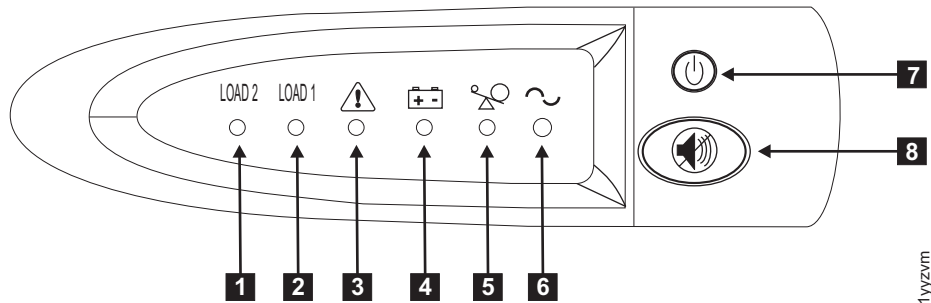

Figure 35. 2145 UPS-1U front-panel assembly
8. Press and hold the on/off button (**7** in Figure 35) for approximately five seconds. You might need a pointed device, such as a screwdriver, to press the on/off button. The front panel indicators cycle through a startup sequence while the 2145 UPS-1U conducts a self-test.